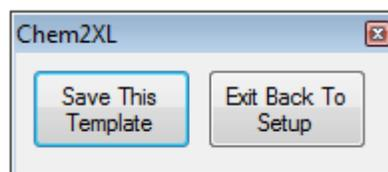

Figure 3.10 Save the template and return to Setup Wizard
17. After editing the template is complete, save the template. Click the Chem2XL *Save This Template* (see Figure 3.10). By pressing this button, the template will be properly saved to the Chem2XL Template Directory. **Note: Using Excel's File/Save will not automatically save the template to the proper location.** After saving the template, click *Exit Back to Setup* which will close the template (see Figure 3.10). Exit the Chem2XL Setup Wizard.